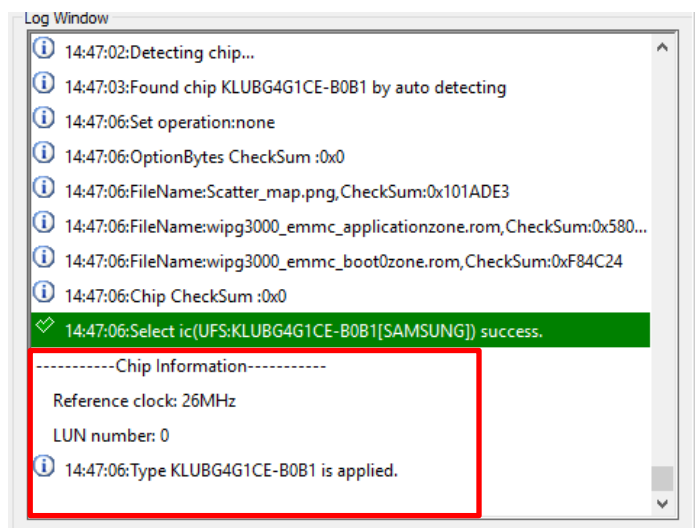

Fig. 5-39
Step 1. If the LUN number still remains at zero (Fig. 5-39) even after the IC and socket are installed, then it might indicates the LUN is unable to write, please partition the LUN first.